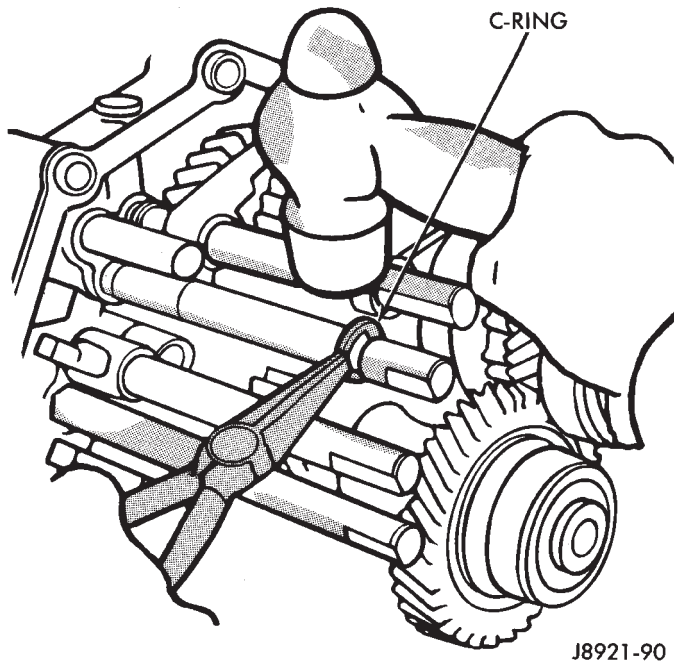

Fig. 83 Installing Shift Rail C-Rings
(20) Install new shift rail C-rings (Fig. 83).